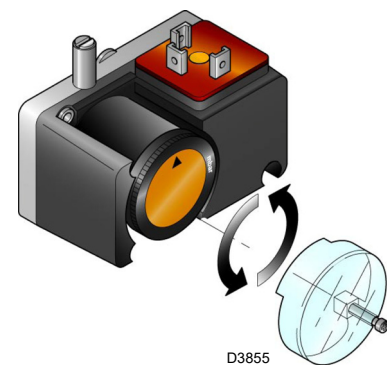

Fig. 25
- Adjust the minimum gas pressure switch (Fig. 25) to the start of the scale.
- adjust the minimum gas pressure switch (Fig. 25) on the gas train to the start of the scale;
Adjust the minimum gas pressure switch after performing all the other burner adjustments with the pressure switch set to the start of the scale (Fig. 25).